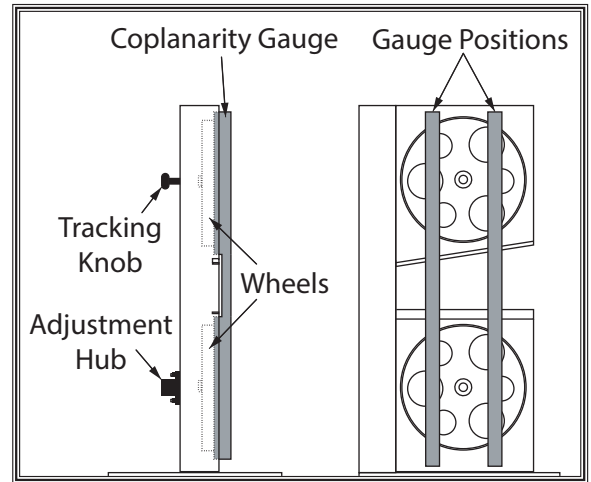

Figure 103. Illustration of using coplanarity gauge to check wheel alignment.
- Place coplanarity gauge up against both wheels in positions shown in **Figure 103**. Make sure gauge fully extends across rims of both wheels.